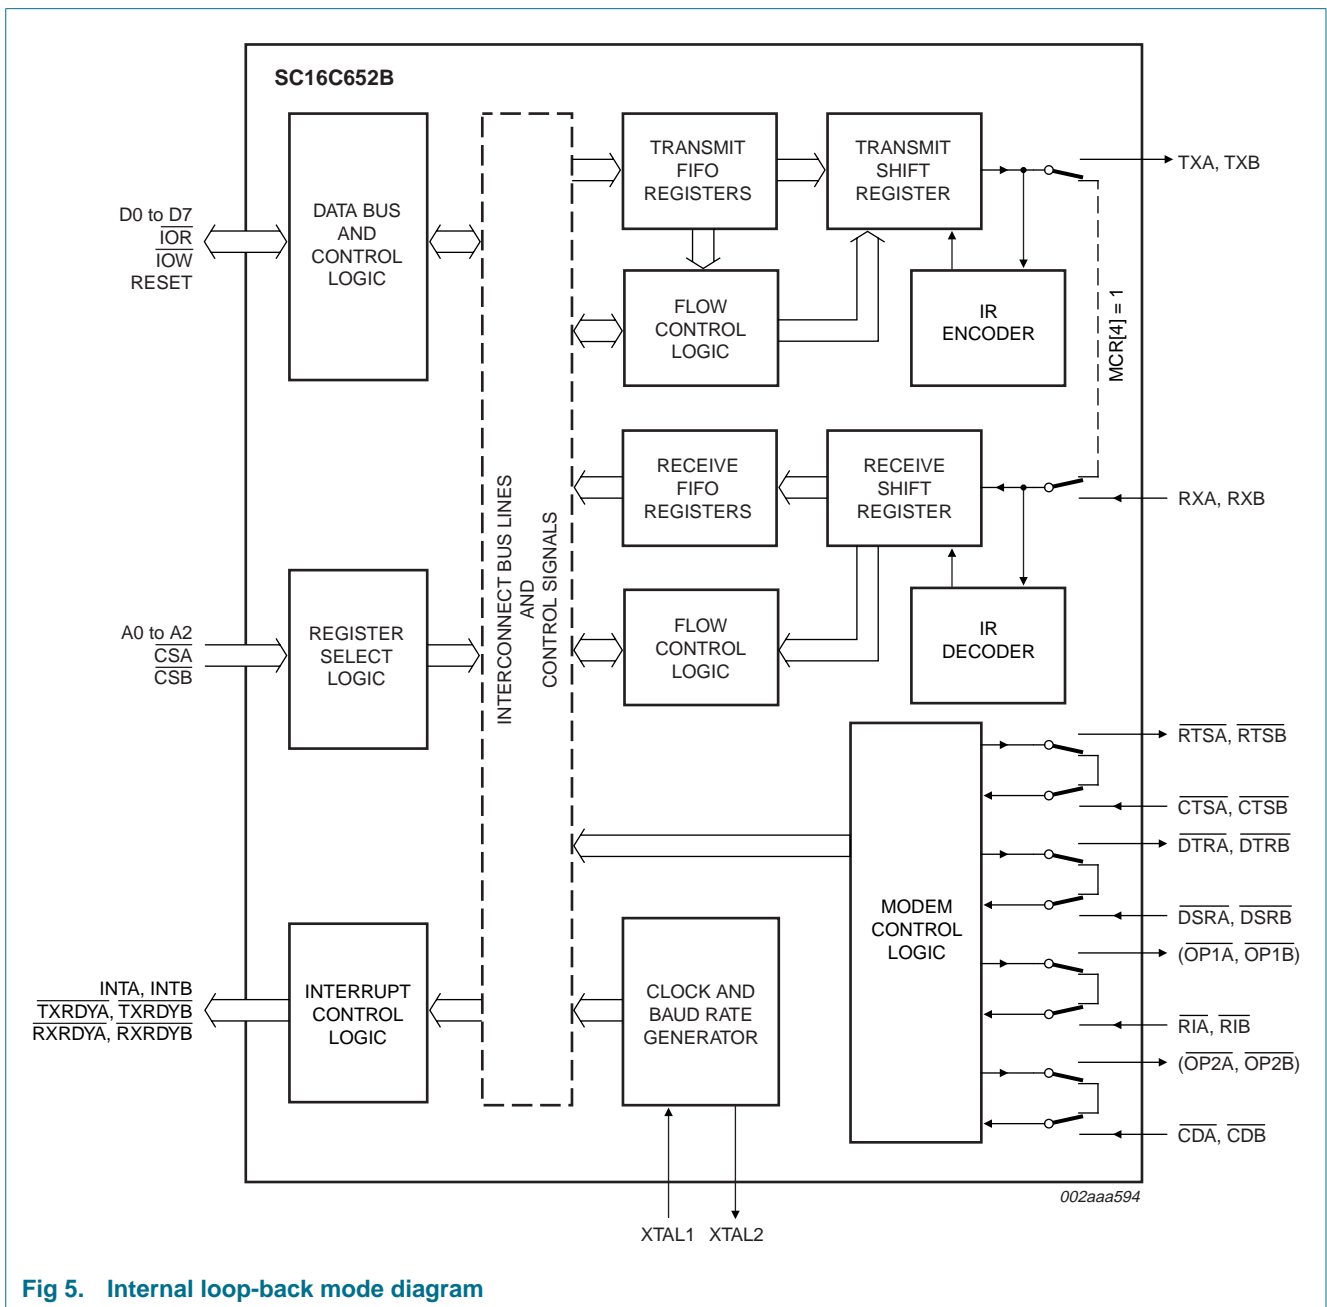

Fig 5. Internal loop-back mode diagram
The internal loop-back capability allows on-board diagnostics. In the loop-back mode, the normal modem interface pins are disconnected and reconfigured for loop-back internally (see Figure 5). MCR[3:0] register bits are used for controlling loop-back diagnostic testing. In the loop-back mode, the transmitter output (TX) and the receiver input (RX) are disconnected from their associated interface pins, and instead are connected together internally. The \overline{CTS} , \overline{DSR} , \overline{CD} , and \overline{RI} are disconnected from their normal modem control inputs pins, and instead are connected internally to \overline{RTS} , \overline{DTR} , MCR[3] ($\overline{OP2}$) and